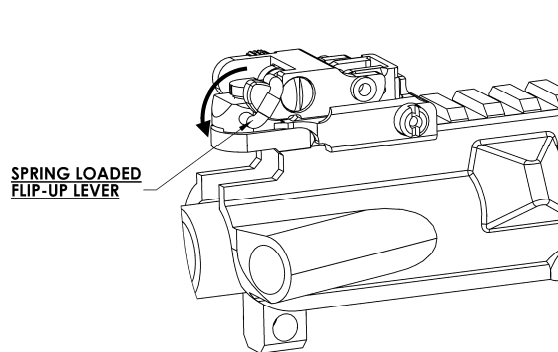

Figure 28
1. The low-profile rear sight can be engaged by depressing the spring-loaded flip-up lever. (Figure 28).